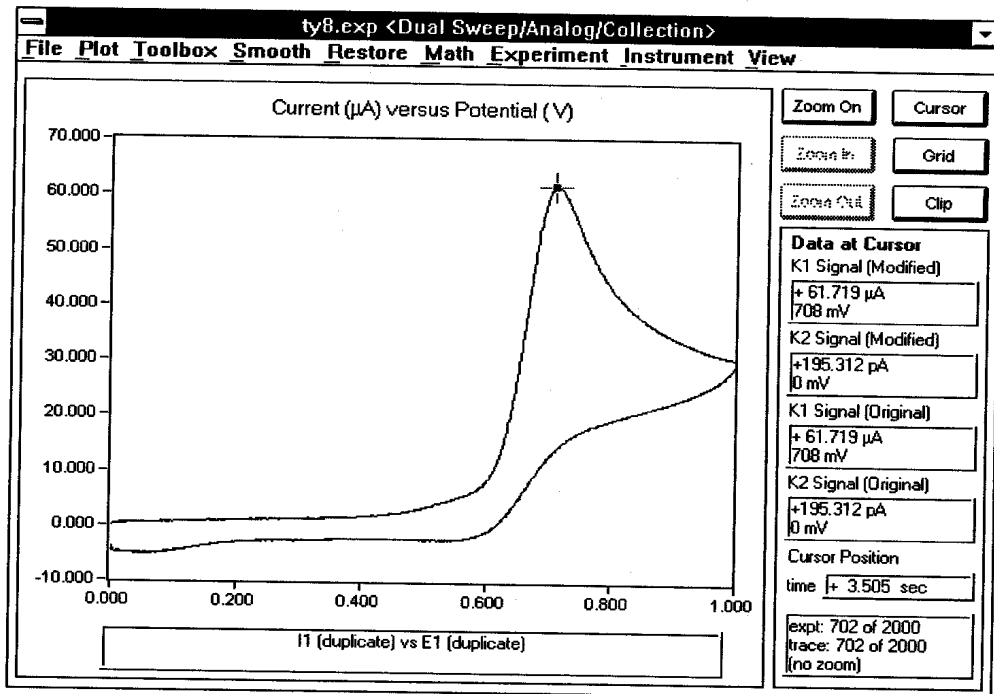

Figure 3: Typical APAP Voltammogram
5. Click the PERFORM button to initiate the experiment. A fairly prominent anodic wave should appear during the sweep from 0 mV to +1000 mV. On the return sweep, no cathodic wave should be apparent. Figure 3 shows a cyclic voltammogram typical of APAP. Note that as displayed by the software, positive potentials are plotted to the right and anodic currents are plotted to the top of the graph, which is the opposite of conventional electrochemical techniques.